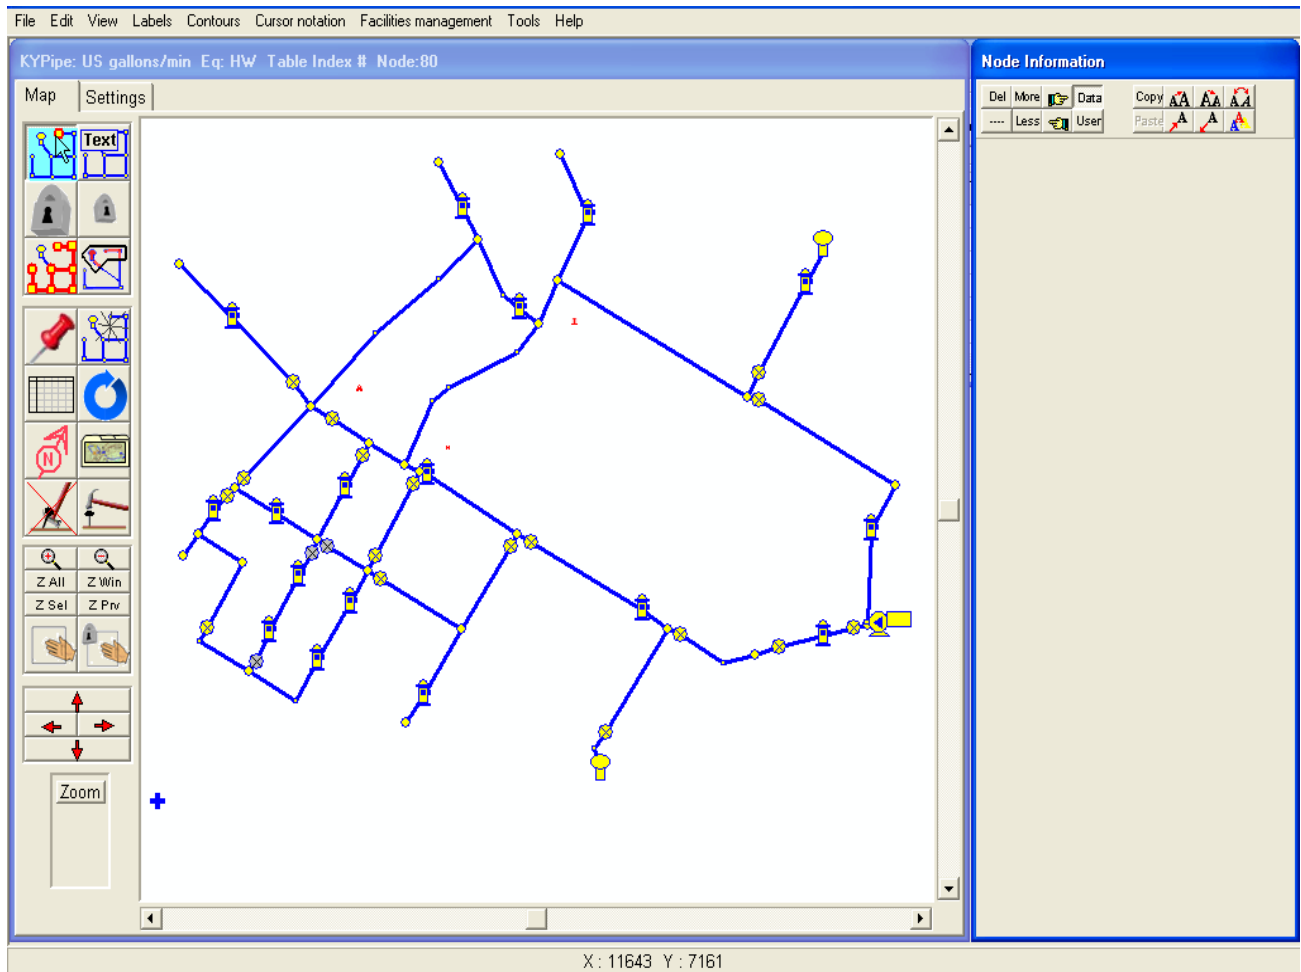

Figure 1.1 Example Network Model
1. One of the unique challenges of developing computer models for small utilities is the ability to generate and assemble the required basic network data. The Kentucky Infrastructure Authority (kia.ky.gov) has assembled extensive GIS data sets for all of the water distribution systems within the state (<http://kia.ky.gov/wris/data.htm>). This information includes data on pipelines, water tanks, water treatment plants, water meters, and pump stations. The GFM model includes functionality to upload such data via a graphical user interface to permit the creation of a schematic of the water distribution system. While this functionality will be initially applied to water utilities within Kentucky, it should provide a framework for extension of such an approach to other states as well (see Figure 1.1).